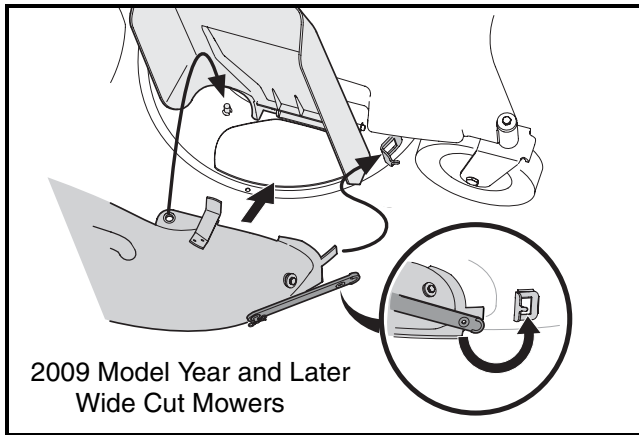

FIGURE 1
1. The Elbow Chute comes pre-assembled in the configuration required for 2009 Model Year production 33" Wide Cut Mower cutting decks. See Figure 1 for forward deck fitting for securing the elbow chute.
If your deck attach bracket looks like that in Figure 1, the elbow chute is already correctly configured. Stop here.
Refer to Figure 1 for the following steps.